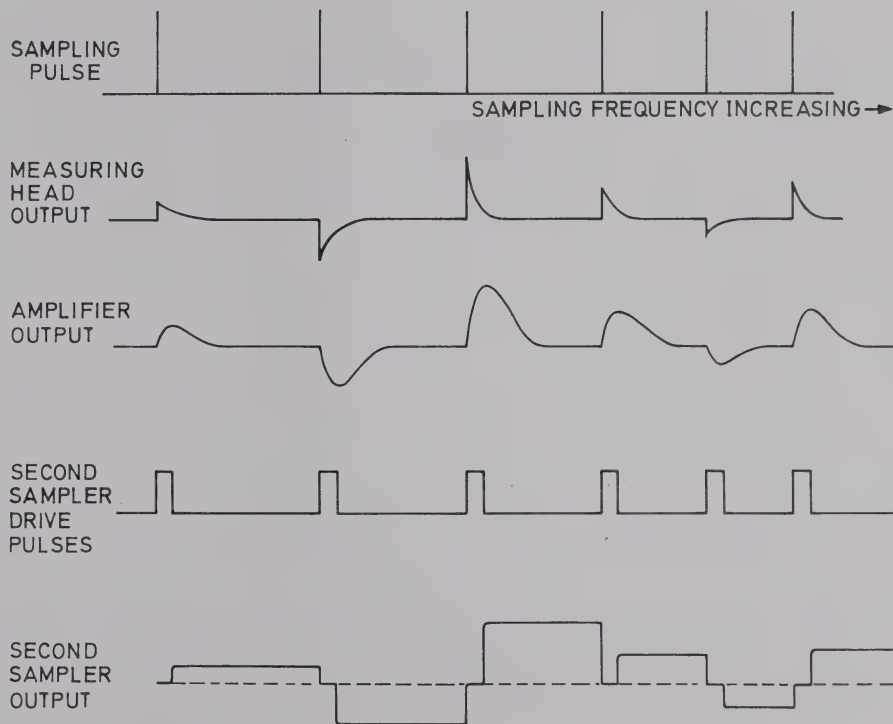

Fig. 5.2 Idealised Waveforms:
5.3.2.4.5 Idealised waveforms for the sampling and signal processing systems are given in Fig. 5.2